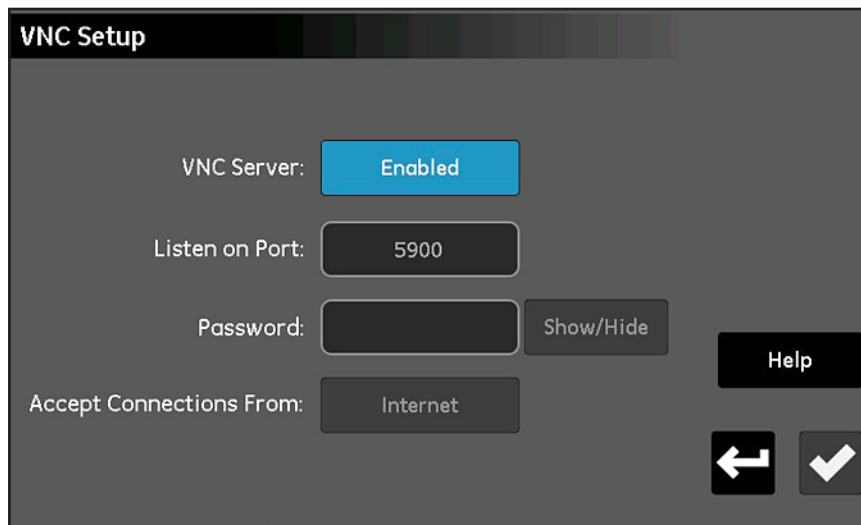

Figure 72: VNC Setup Screen
1. From the *Configuration Menu* screen (see *Figure 52* on page 59), tap the **VNC** button to open a *VNC Setup* screen similar to *Figure 72* below.